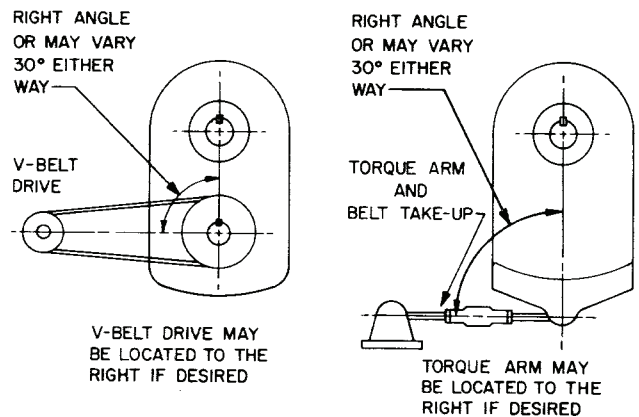

FIG. 2
10. Install motor and V-belt drive so belt pull will be roughly at right angles to the center line between driven and input shaft. (See Fig. 2.) This will permit tightening V-belt drive with the torque-arm.
12. Install torque-arm fulcrum on a rigid support so that the torque-arm will be approximately at right angles to the center line through the driven shaft and the torque-arm anchor screw. (See Fig. 2.) Make sure that there is sufficient take-up in the turnbuckle for belt tension adjustment when using V-belt drives.